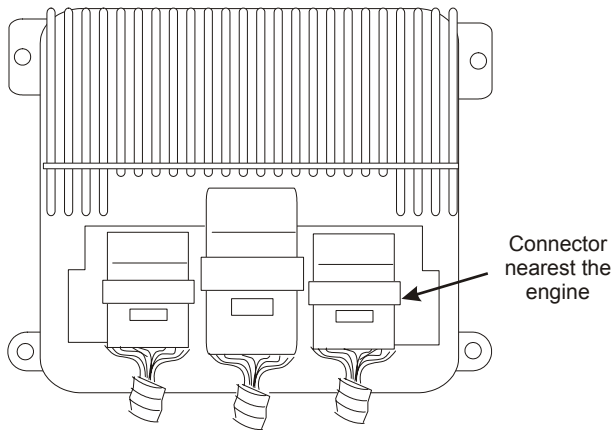

Figure 3
- Solder and seal the white tachometer wire from the throttle controller to the dark blue wire with a white stripe at the connector nearest the engine on the ECM (Figure 3). The ECM is on the passenger side firewall in the engine compartment.
- Solder and seal the long blue wire with no connector from the throttle control to the orange wire with a black stripe in the connector nearest the engine on the ECM (Figure 3).